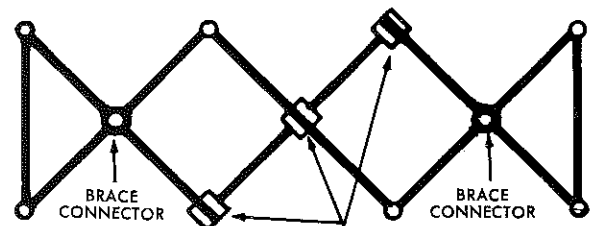

FIGURE 5
□ Now insert the three "A" stanchions through the holes in the braces. Make sure you turn the stanchions so that the slots on top of the stanchions line up exactly as shown. (Fig. 5) Insert the two round-topped brace connectors through the holes where the braces cross each other.